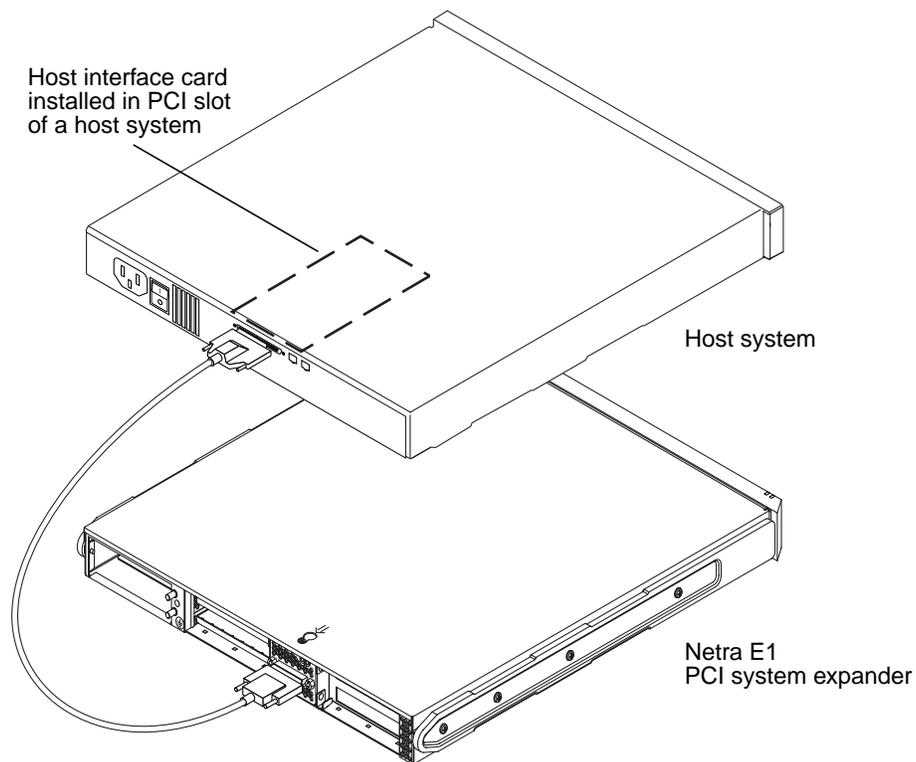

FIGURE 2-17 Host Interface Card Installed in the Host System
1. **Attach one end of the connector cable to the host interface card installed in the host system as shown in FIGURE 2-17.**
2. **Attach the other end of the cable to the PCI connector in the system expander (FIGURE 2-17).**